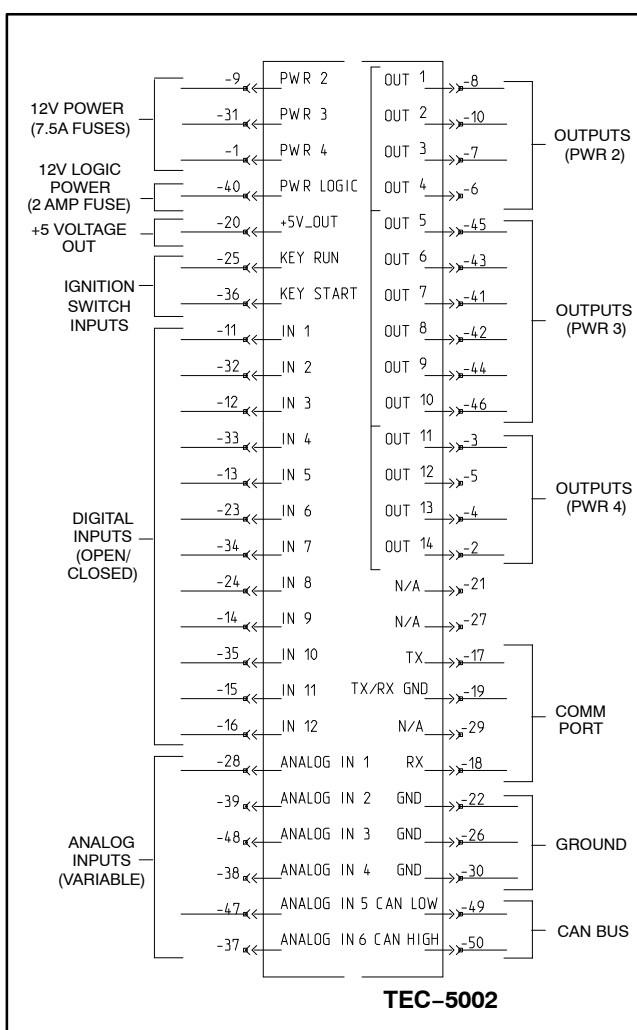
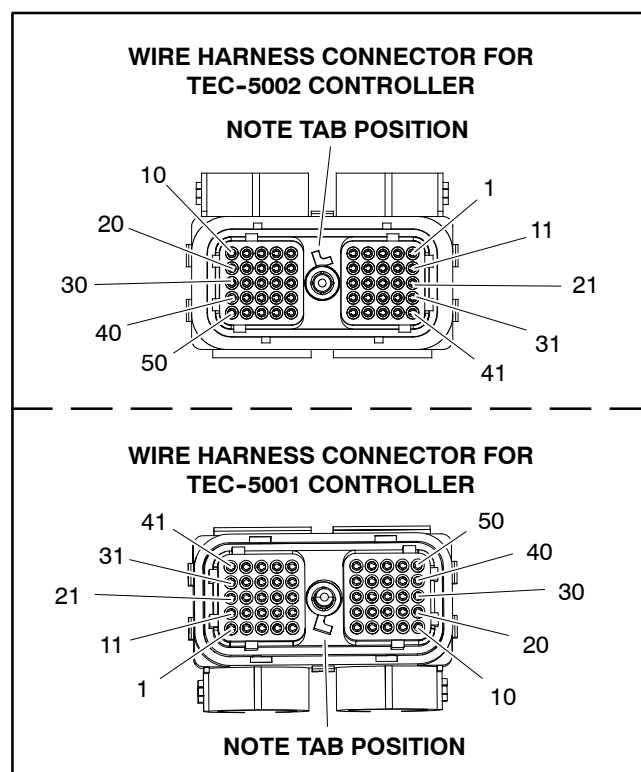

Figure 48
Figure 50
The connection terminal functions for the TEC controllers are shown in Figures 48 (TEC-5002) and 49 (TEC-5001). Note that electrical power for controller outputs is provided through three (3) connector terminals (PWR 2, PWR 3 and PWR 4) each protected with a 7.5 amp fuse. A fifty (50) pin wire harness connector attaches to each controller. The wire harness connector pins are identified in the diagram in Figures 48 and 49. The layout of the wire harness connectors that plug into the TEC controllers is shown in Fig. 50.